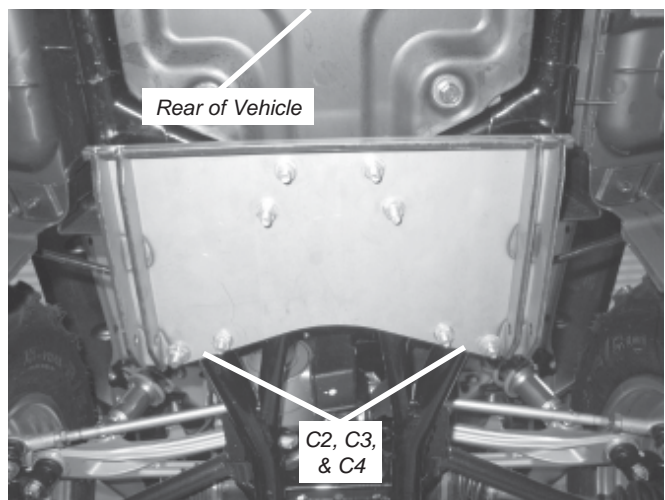

Figure 4 Install Remaining Fasteners
4. Terminate the ends of the two 5/16" dia x 1-3/8" wide U-bolts (C2) with 5/16" dia flat washers (C3) and 5/16" dia nylock nuts (C4) as shown in figure 4.